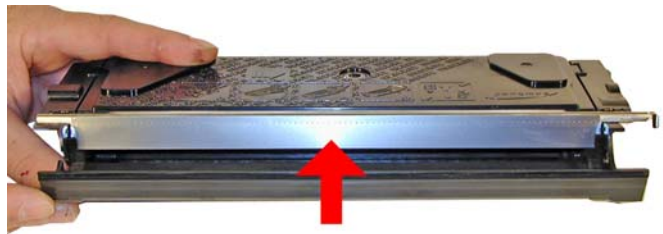

Figure 17
14) Clean the Dr. Blade. Until new blades are available, we do not recommend that this blade be removed, as it is held in place by an adhesive foam seal under the blade. If the blade is pried up (not an easy thing to do) the blade will bend, and become useless. Clean the blade with a cotton swab dampened with alcohol with the blade in place. Make sure that you do not drip any alcohol into the cartridge. See **Figure 17**